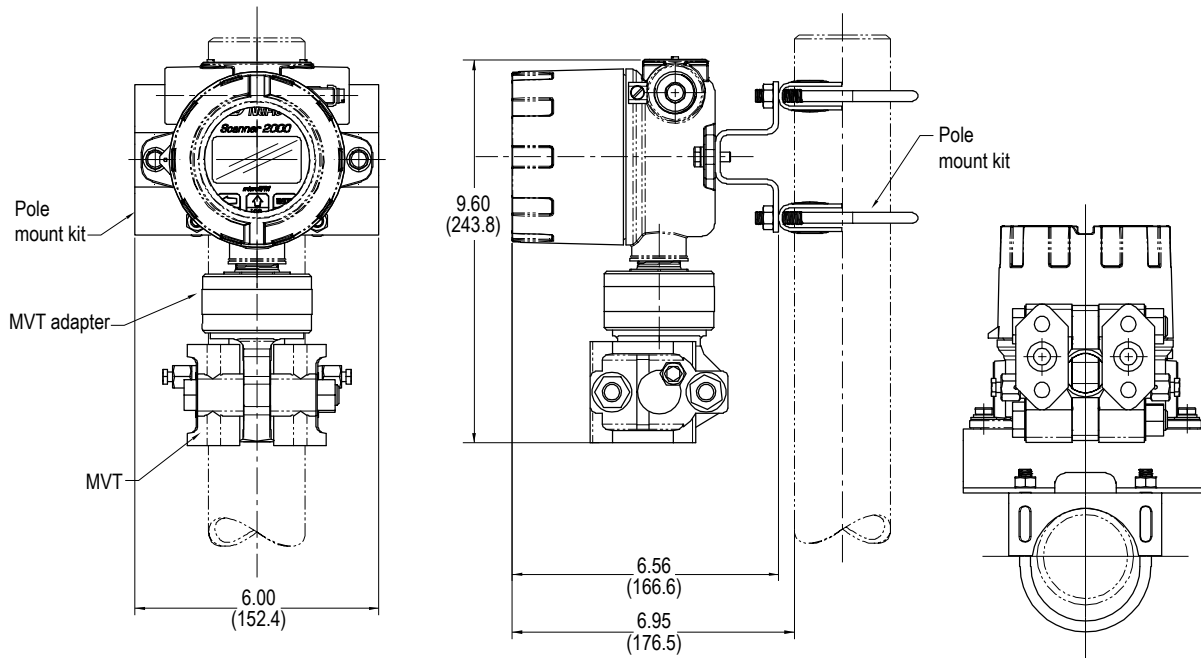

Figure 2.4—Scanner 2000 with MVT, remote-mounted on a 2-in. pole using a NuFlo hardware kit (Part No. 9A-30028004)
- Pole-mount. The instrument can be mounted on a 2-in. pole using a NuFlo hardware kit, or bulkhead-mounted to a flat, vertical surface (Figure 2.4, page 32). Pole mounting may be preferred where limited space or pipe vibration prohibits direct-mount installation. A horizontal pipe mount is recommended for liquid and steam installations using a side-port MVT and block manifold. Tubing is used to connect the integral MVT to the orifice meter or cone meter. If a Scanner 2000 will be used for steam measurement, a condensate pot must also be installed to protect the Scanner 2000 from extreme temperatures. See Measuring Steam via a Differential Pressure Meter, page 42, for details.
2. Connect the mounting bracket to the Scanner 2000 using the two bolts provided (Figure 2.4, page 32).
**Important** The vertical pipe mount configuration shown in Figure 2.4 is not recommended for side-port MVTs when mated with a block manifold for liquid or steam measurement. A horizontal pipe mount should be considered for these installations.